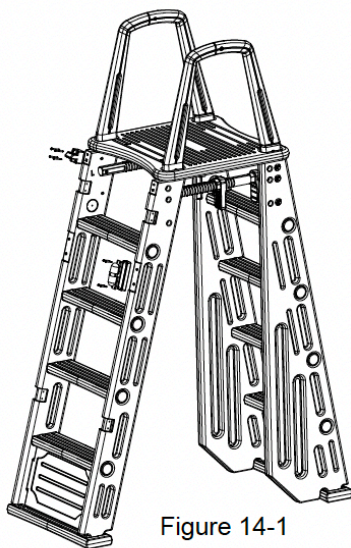
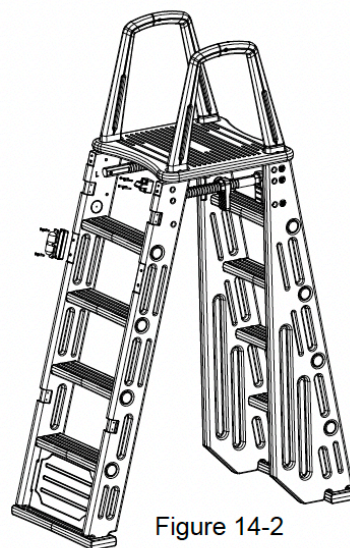

Figure 14-1
Figure 14-2
12. The gate can be set to open from either the left or right side. If opening from the left side (the side of the left outer upright post marked with «L»), secure the strike plate to the left outer upright post («L» mark) using four ST4.238 tapping screws, and attach the door closer body and door closer block to the right outer upright post («R» mark) using four ST4.230 tapping screws (see Figure 14-1). If the gate opens from the right side (the side of the right outer upright post marked with «R»), refer to Figure 14-2 for the positions of the strike plate and door closer assembly.